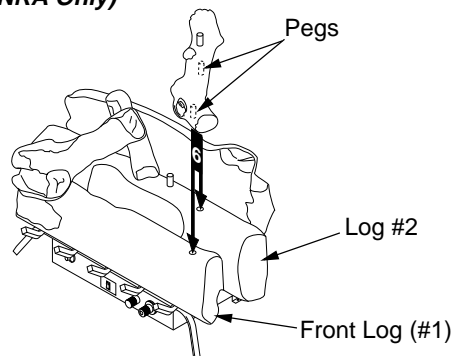

Figure 30 - Installing Crossover Log (#6) (CCL3930PR/NR Shown)
6. Locate pegs on the bottom of crossover log (#6). Slide these pegs into the holes located in middle log (#2) and front log (#1). See Figure 30.